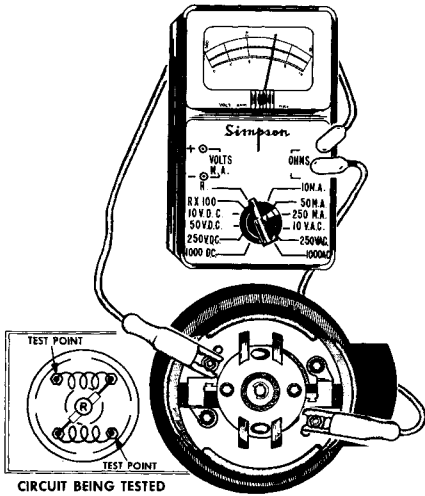

Figure 14 - Check for open circuit.
1. Check for open circuit, as shown in Figure 14.
The resistance across both windings, rotor and brushes should be approximately 10 ohms, Figure 14. The resistance may vary due to pressure of brushes against armature.